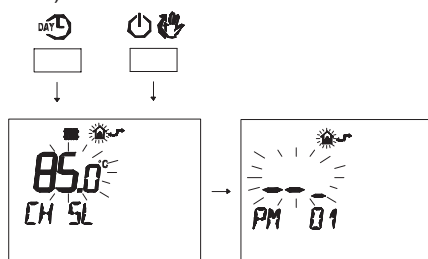

Fig. 8.27
- Press buttons  and  at the same time to enter transparent programming (Fig. 8.27).